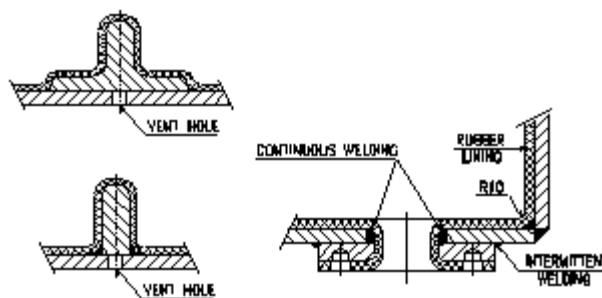

FIG.10
- 3-5 : When air pocket brought about by continuous welding cannot be avoided, air vent-hole or intermittent weld must be provided as shown in Fig. 10.